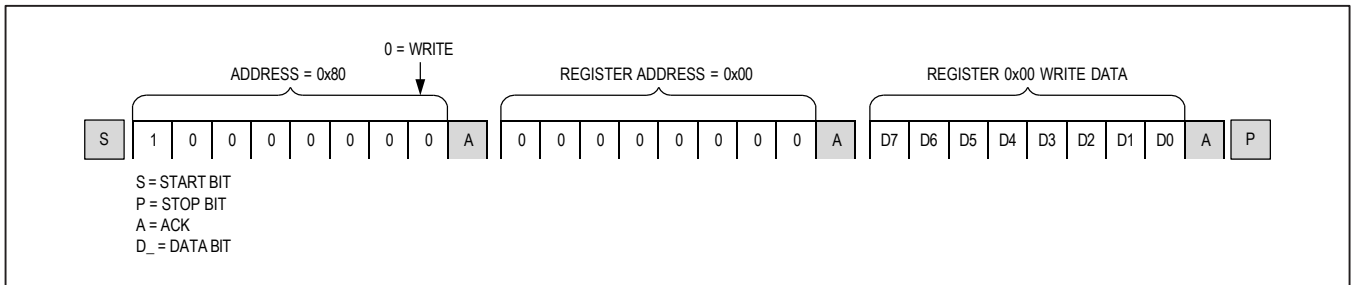
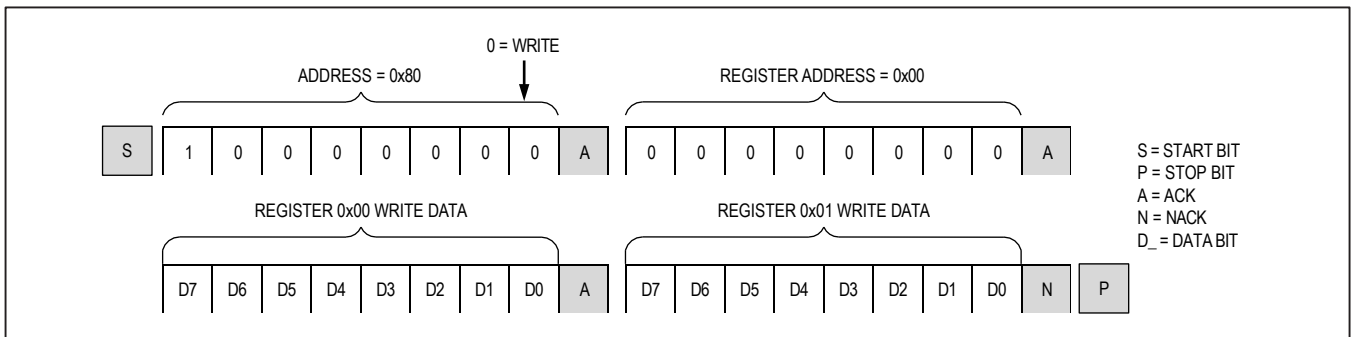

Figure 31. Format for I²C Write
Figure 32. Format for I²C Write to Multiple Registers
Writes to the serializers comprise the transmission of the subordinate address with the R/W bit set to zero, followed by at least one byte of information. The first byte of information is the register address or command byte. The register address determines which register of the device is to be written by the next byte, if received. If a STOP (P) condition is detected after the register address is received, the device takes no further action beyond storing the register address (Figure 31). Any bytes received after the register address are data bytes. The first data byte goes into the register selected by the register address, and subsequent data bytes go into subsequent registers (Figure 32). If multiple data bytes are transmitted before